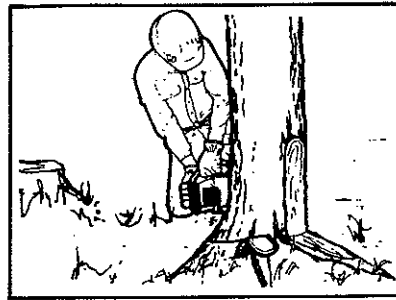

Figure 19
**NOTE:** If the tree has large buttress roots, remove before making the notch. Cut into the buttresses vertically, then horizontally. Figure 19